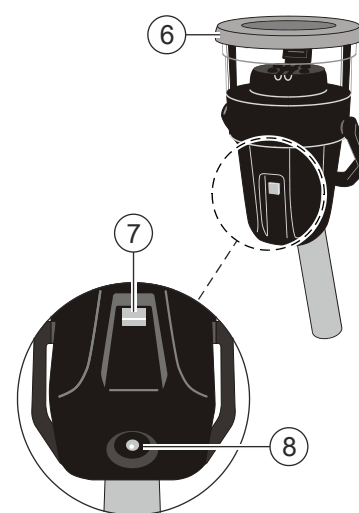

Fig. 3
1. Move the red switch (7) on the tester (2) to position 'I' (Fig. 3).
1. Hold the tester (2) under the heat detector (Fig. 3).
2. Press the tester (2) against the heat detector and ensure the heat detector is in firm contact with the detector holder (6).